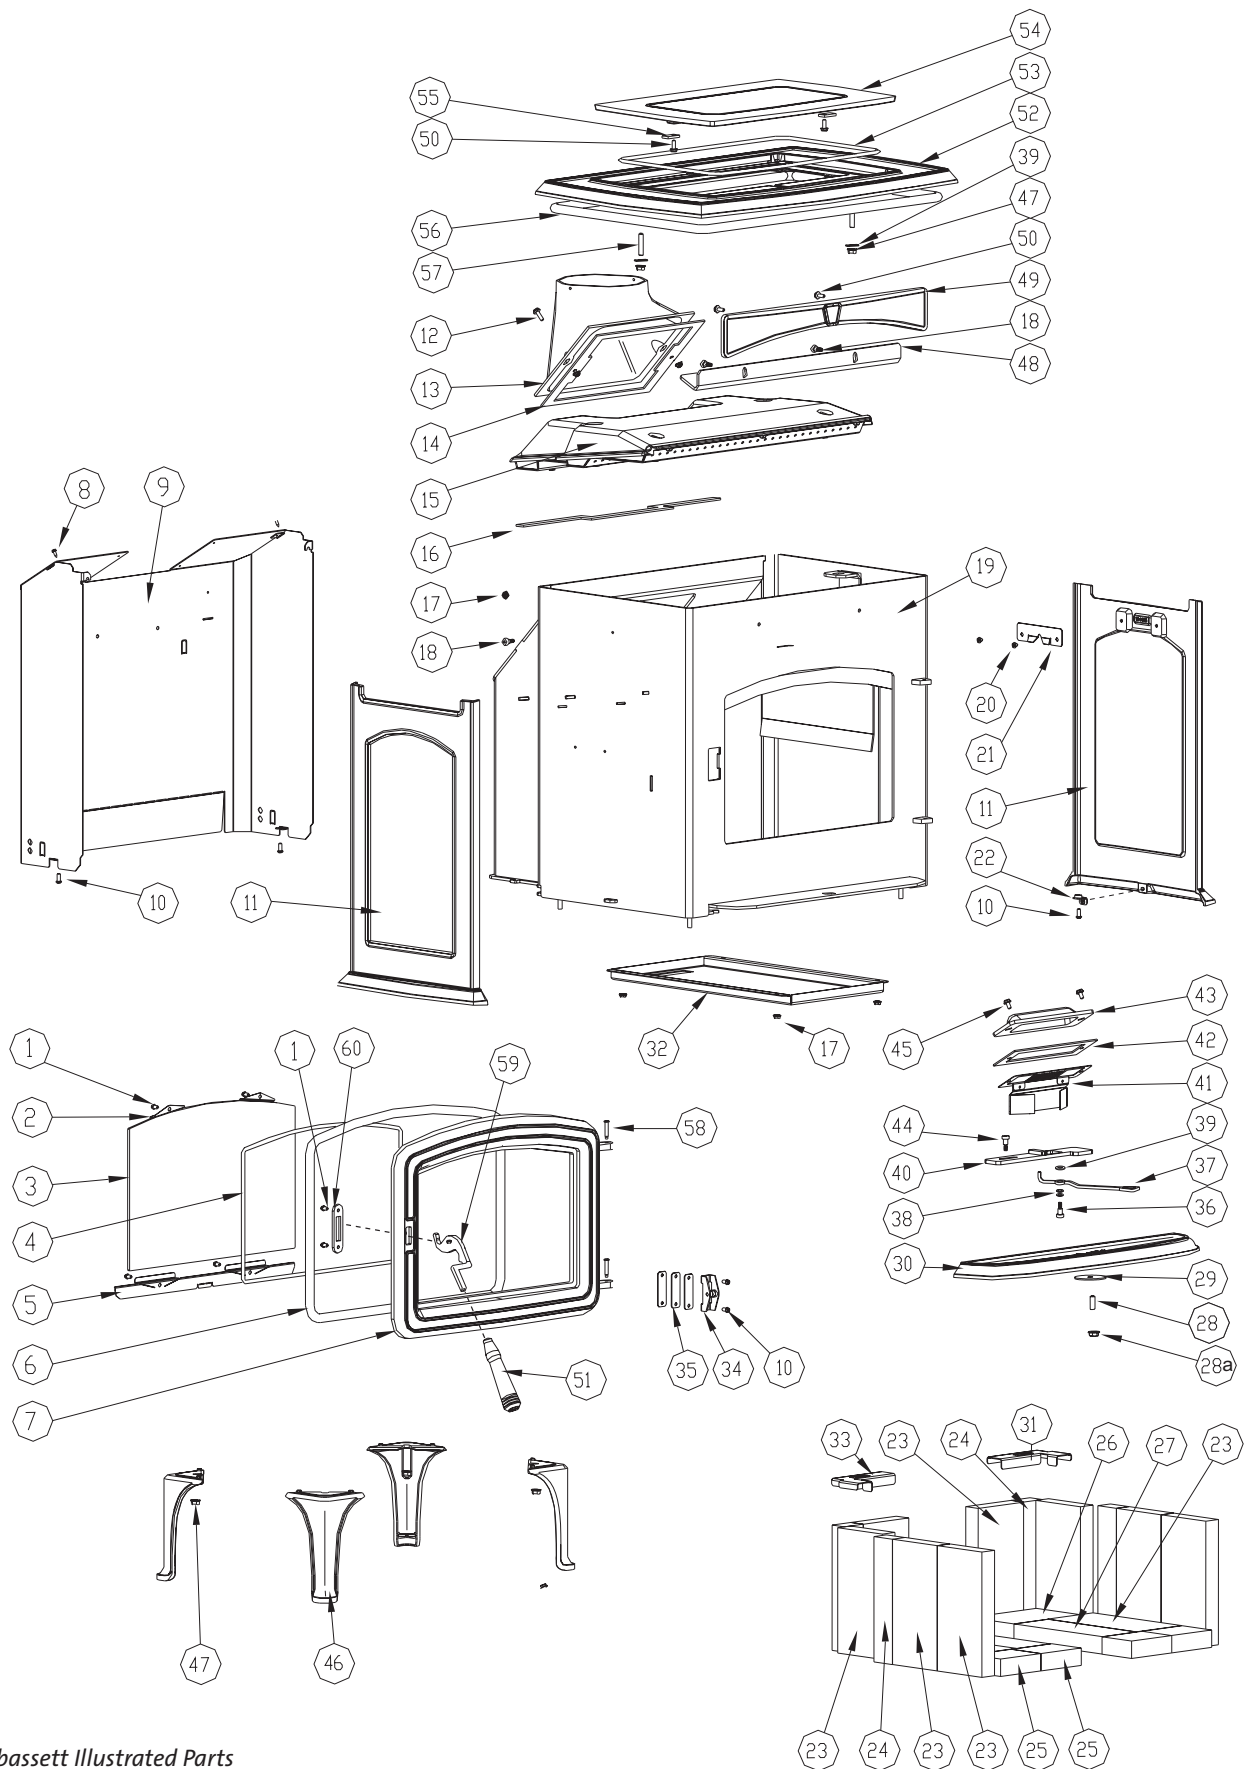

Figure 25.
See fig. 25, page 24 and the parts listing on page 25 for the configuration and part number of any firebricks that require replacement. Order through your local Jøtul Authorized Dealer.
1. Use the 13 mm socket driver or wrench to remove the four nuts that secure the steel secondary air manifold to the stove bottom and remove the manifold (Fig. 25, #32).